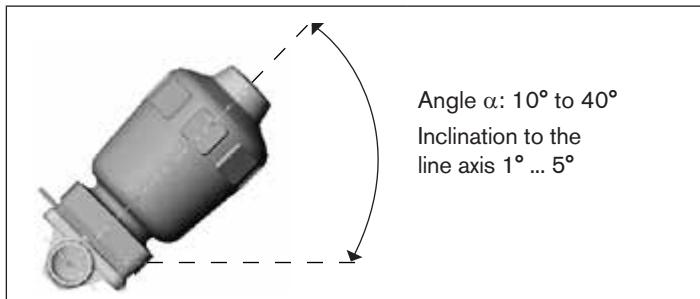

Fig. 12: Installation position for self-drainage of the body
- Install body inclined by angle $\alpha = 10^\circ$ bis 40° to the horizontal (see "Fig. 12").